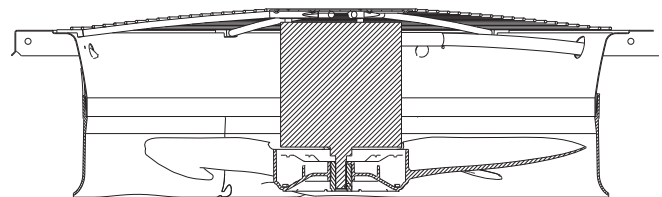

Fig. 28 — Condenser Fan Adjustment
2. Remove condenser-fan assembly (grille, motor, and fan). See Fig. 28.